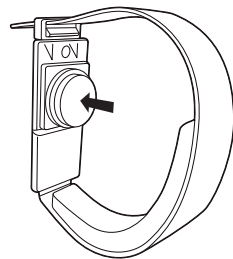

Figure 1b
- If the adaptor is not used (small wrists or access sites close to the wrist crease), align the device according to these markers [See Figure 1b]: